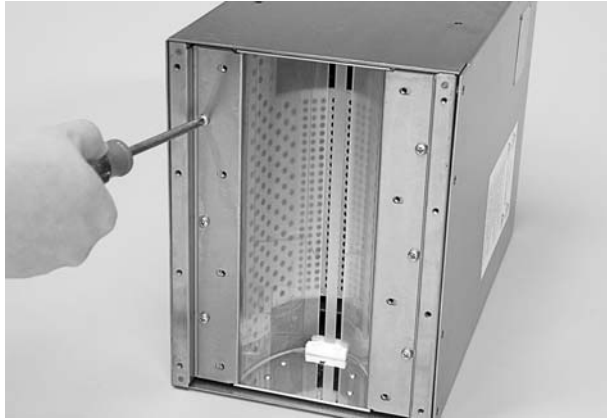

Figure 5-5 Retaining Bar Removal
- See Figure 5-5. Remove the six mounting screws and the two retaining bars from the lamphead base.